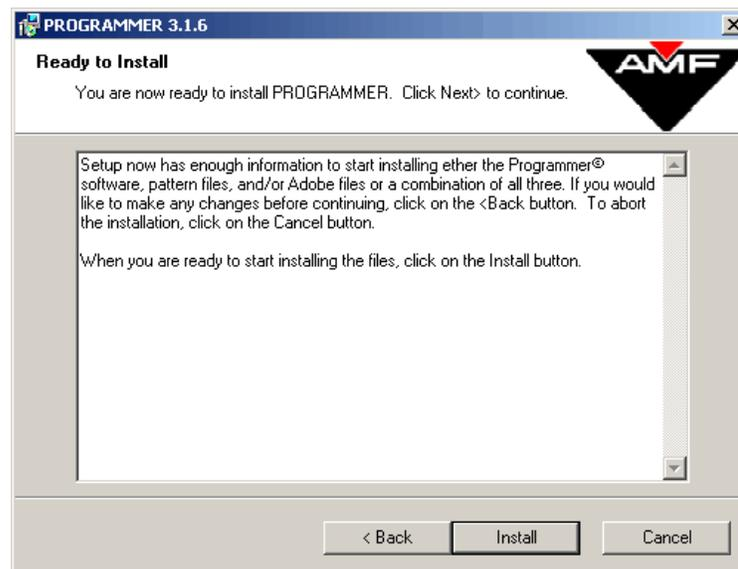

Figure 1-17
16. The computer now has enough information to complete the installation process. Click on the **<Install>** button as shown in **Figure 1-17** to finish the installation.